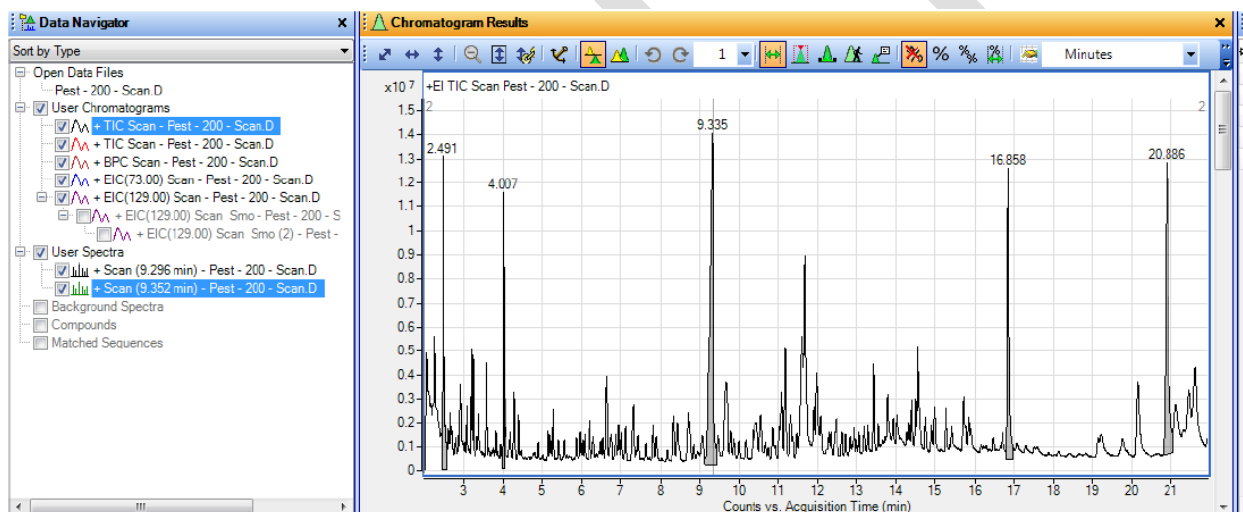

Fig.8
- At this point you will see the total ion chromatogram (TIC) (Fig.8). You can expand an area of the TIC by holding down the left mouse button while dragging a box around the region to be expanded. To reset the display to the entire chromatogram, double-click the left mouse button.